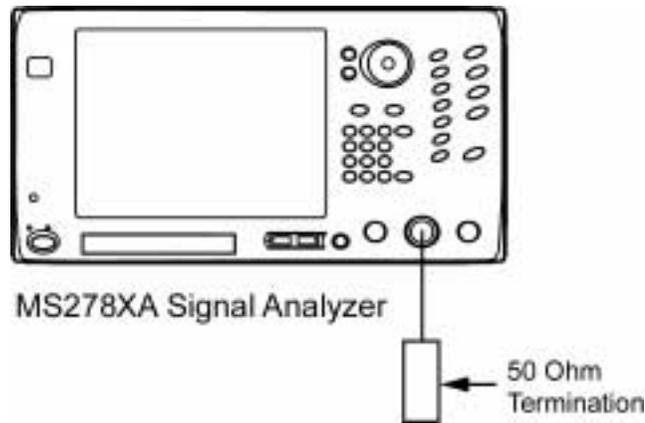

Figure 3-11. Equipment Setup for Residual Spurious Responses Test
- Step 3.** Set up instruments as shown in Figure 3-11.